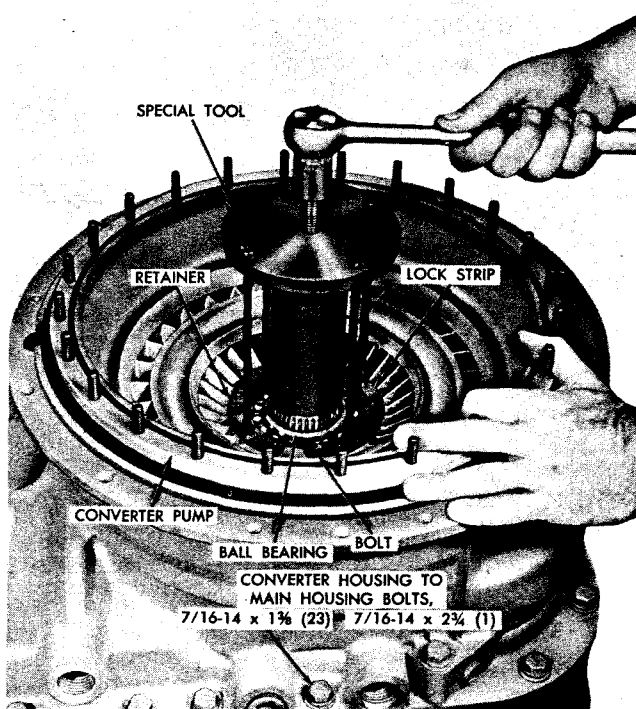

Fig. V-15. Removing converter pump, input accessory drive gear and bearing
(4) Bend down the lock strips and remove four of the 12 bolts that secure the converter pump to the input accessory drive gear (fig. V-15). Using a puller in the four holes, remove the converter pump, bearing, accessory drive gear, retainer and gasket as an assembly (fig. V-15 and IV-1).
(1) Remove 24 bolts and 24 lock washers from the converter housing (fig. V-15).
(2) Attach a suitable sling to the engine mounting face and use a hoist to remove the